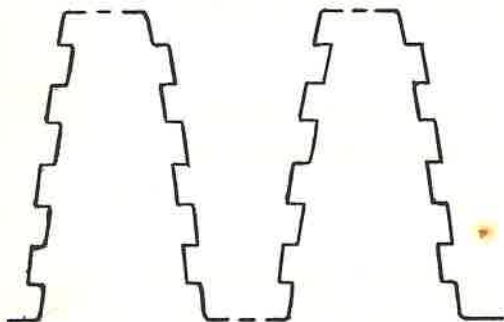

FIGURE 1-4b
5. Set the EXPAND switch to X5 and adjust the X5 trimmer for the same condition in step 4. Figure 1-4b indicates improper adjustment of either the X1 or X5 trimmer.